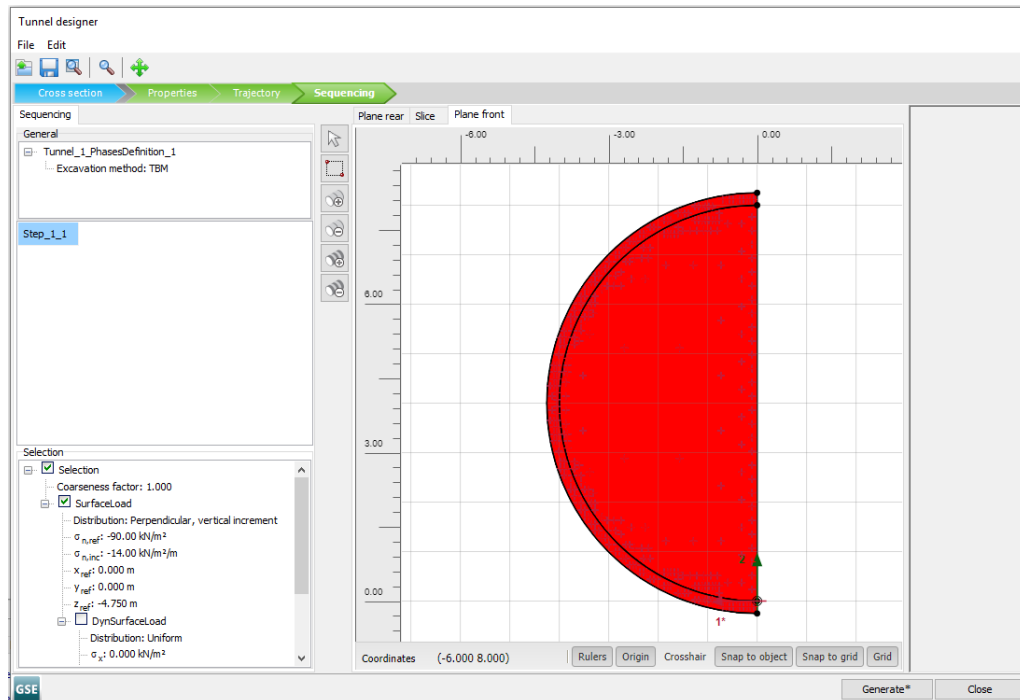

Figure 73: Plane front tab Tunnel designer- <Step_1_1> Definition of face pressure
- Click on the **Plane Front** tab and select all the surfaces. In the **Selection Explorer**, activate the **Surface load** corresponding to the TBM face pressure (Figure 73 (on page 99)).
- In the **Selection explorer**, activate the **Surface load** corresponding to the *grout pressure* (Figure 73).